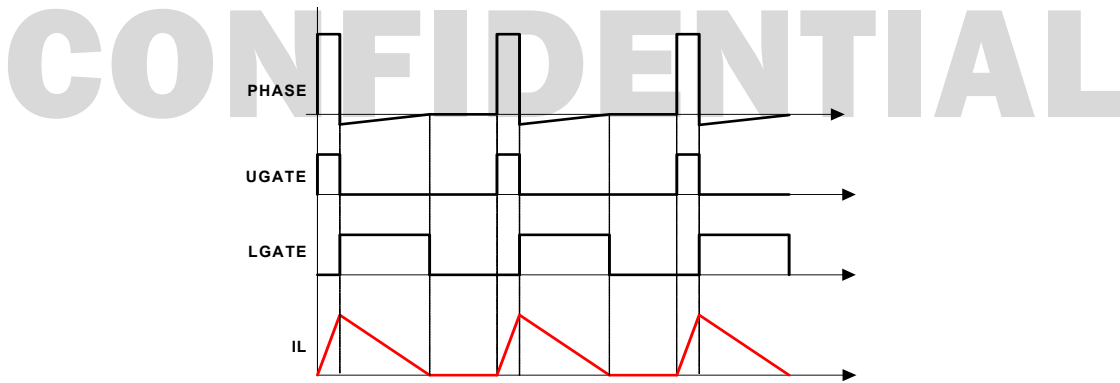

Figure 37. Diode Emulation
The R3 modulator can operate in Diode Emulation (DE) mode to increase light-load efficiency. In DE mode, the low-side MOSFET conducts when the current is flowing from source-to-drain and does not allow reverse current, emulating a diode. As shown in Figure 37, when LGATE is on, the low-side MOSFET carries current, creating negative voltage on the phase node due to the voltage drop across the ON-resistance. The IC monitors the current by monitoring the phase node voltage. It turns off LGATE when the phase node voltage reaches zero to prevent the inductor current from reversing the direction and creating unnecessary power loss.
If the load current is light enough, as Figure 37 shows, the inductor current reaches and stays at zero before the next phase node pulse and the regulator is in Discontinuous Conduction Mode (DCM). If the load current is heavy enough, the inductor current never reaches 0A and therefore the regulator is in CCM although the controller is in DE mode.